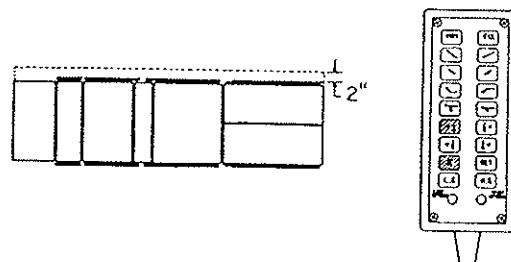

Figure 2-15. Lateral Slide - Left
g. Lateral Top Slide (Side to Side). To achieve lateral top slide-left (as viewed from head end of table), push both the LATERAL SLIDE-LEFT and ENERGIZE buttons. See figure 2-15. Movement of up to 2" from center may be obtained. To achieve